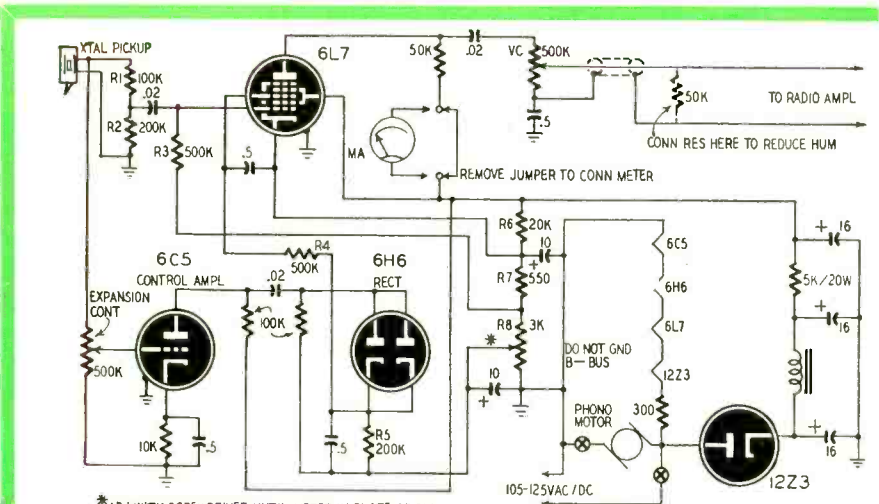
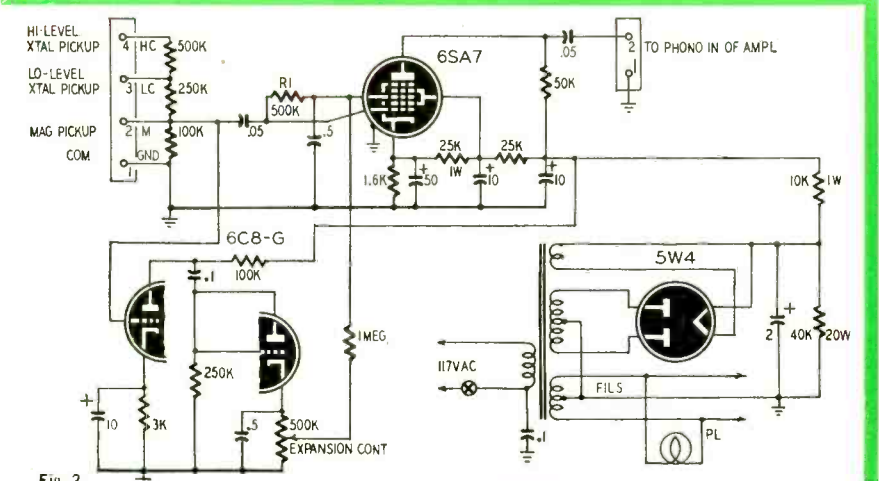
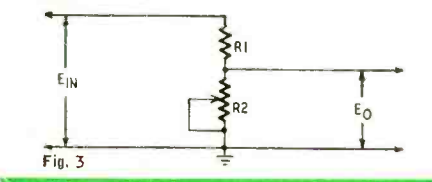
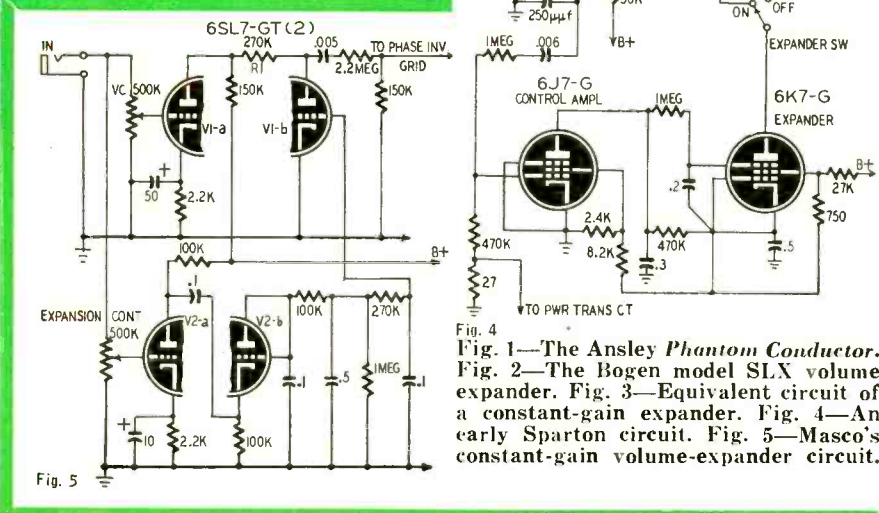

Fig. 1 \*ADJ WITH SCREWDRIVER UNTIL METER IN PLATE OF 6L7 READS .15MA WITH NO SIG
Fig. 2
Fig. 3
Fig. 5
If you now look back at Fig. 1 you will, no doubt, admire the elegant simplicity of the circuit: just three resistors, a pair of tubes, and that little -Ve sign. Every few years I come back to this point of indecision. It's a good simple circuit, but where will I get that negative supply? For special jobs, with double input, it is possible to elaborate the long-tailed pair to give a really well-balanced system, though the balance is usually not as good as you can get with a transformer. But the long-tailed pair stays balanced down to zero frequency.
**A**UTOMATIC volume expanders (also called contrast expanders) were developed in an effort to restore the original dynamic volume range to broadcast and recorded music which had been limited or compressed to prevent overmodulating the transmitter or overcutting the record. While FM broadcasting and LP and 45 r.p.m. records have reduced the need for expansion (little or no compression is used at the studios), the technician still runs across the circuits in older or special equipment. Commonly used volume expanders are of three basic types, namely: variable-gain, constant-gain variable-output, and inverse-feedback. An example of the variable-gain type is shown in Fig. 1.
Fig. 1 is the circuit of the Ansley model DA-PC *Phantom Conductor*, a volume expander similar to the one which was described in several editions of the RCA Receiving Tube Manual. This unit is designed for use between a crystal pickup and audio amplifier.
Fig. 4—The Ansley *Phantom Conductor*. Fig. 2—The Bogen model SLX volume expander. Fig. 3—Equivalent circuit of a constant-gain expander. Fig. 4—An early Sparton circuit. Fig. 5—Masco's constant-gain volume-expander circuit.
The Bogen model SLX expander shown schematically in Fig. 2 is fundamentally similar to the unit shown in Fig. 1. A 6SA7 replaces the 6L7 as the variable-gain amplifier. One triode of the 6C8-G replaces the 6C5, the other has its plate and grid strapped together as a substitute for the 6H6.
To eliminate this effect and to permit the use of a short time constant, Amplifier Corp. of America has used a circuit which is basically a push-pull version of the single-ended expanders in Figs. 1 and 2. A push-pull audio signal is applied to the control grids in each of the push-pull variable-gain tubes and the dynamic bias is applied to the tubes in parallel. In this way, transients, ripple, and harmonics are balanced out because they are in phase on the grids and out of phase in the plate circuit. A modern version of the push-pull expander is used in the model 100-DC amplifier produced by Amplifier Corp. of America.
In a constant-gain variable-output expander, the output of a constant-gain stage is applied to a voltage divider in which one element is variable from zero to infinite resistance. The principle of this very interesting type of expander is illustrated by Fig. 3. The input voltage (from a constant-gain source) is applied across a voltage divider consisting of R1 and R2. The output voltage  $E_o$  can be varied from approximately  $E_{in}$  when R2 is infinite to zero when R2 is zero. In practice, R2 is replaced by the plate-cathode resistance of a vacuum tube. A control amplifier and signal rectifier supply dynamic bias to the tube represented by R2.
Fig. 5 shows a simpler version of the variable-output constant-gain expander circuit, as used in recent Masco amplifiers. V1-a and V2-a are conventional voltage amplifiers. V2-b is the bias rectifier, and V1-b is the expander tube whose plate-cathode resistance is represented by R2 in Fig. 3.